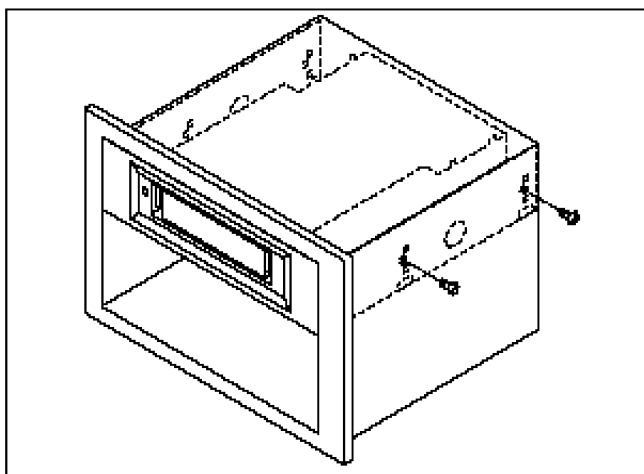

Figure 7
5. Slide the tape drive into the computer so that the drive bezel and the computer faceplate are flush. Figure 7 shows the screws used to mount the STT2401A in a 5.25-inch drive bay.